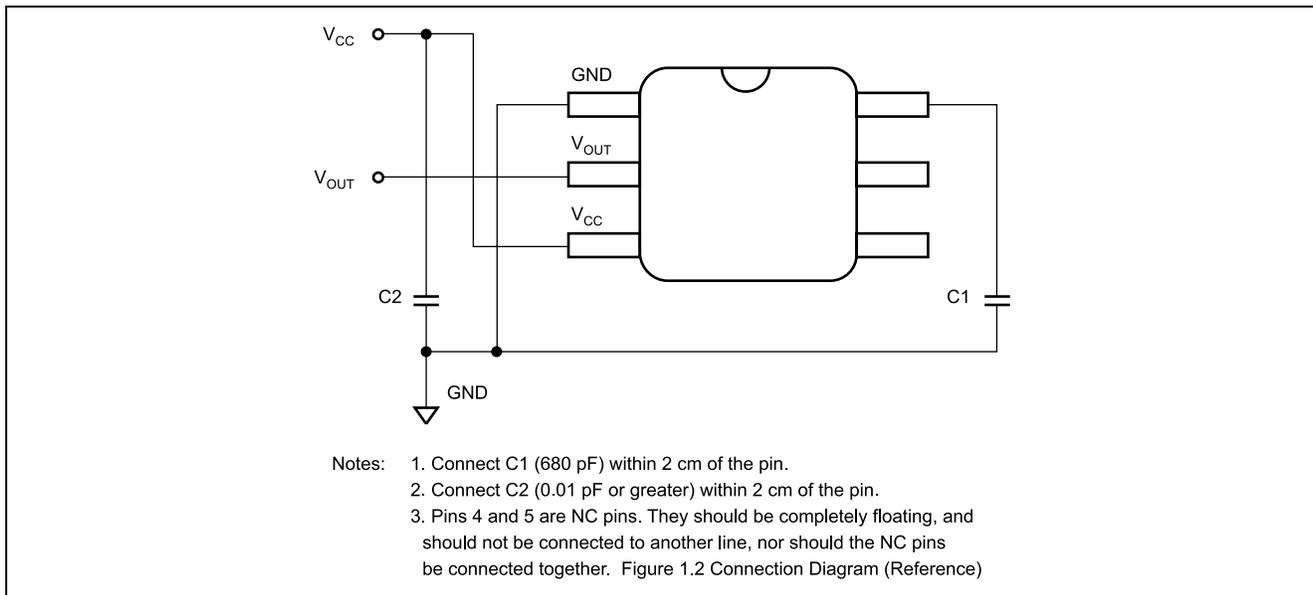

Figure 1.2 Connection Diagram (Reference)
B. Figure 1.2 shows a connection diagram.